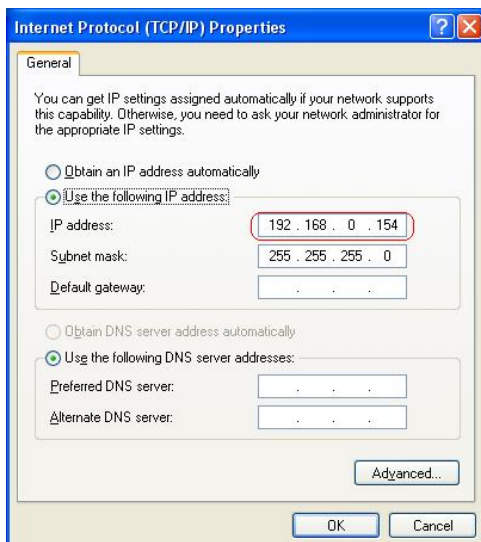

Figure 11-1
4. Give the GV-ASManager a fixed IP address that is NOT used by another device. See Figure 11-1.